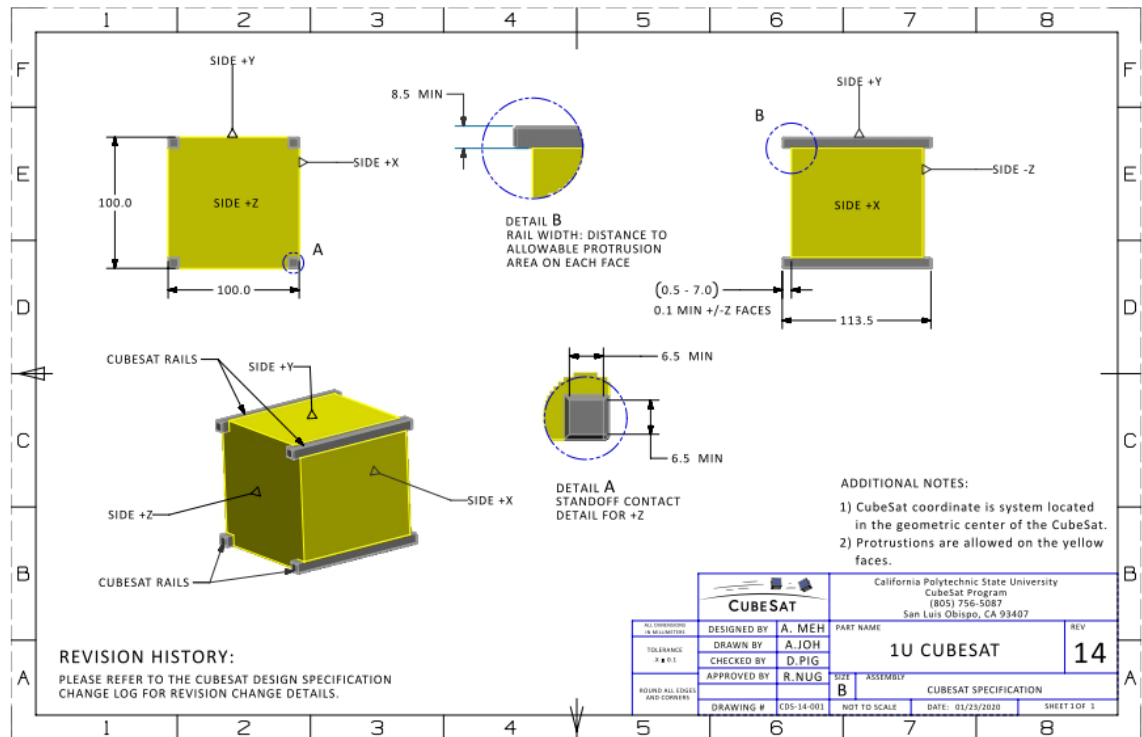

Figure 2 - CubeSat Schematic – credits: CubeSat Design Specification Rev. 14.1 The CubeSat Program, Cal Poly SLO
- The CubeSat shall have a coordinate system, located at its geometric center. Refer to Figure 2.